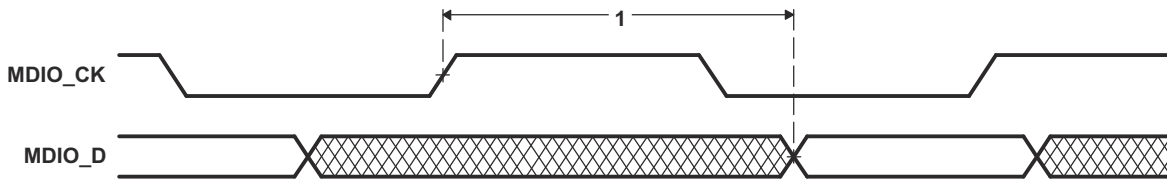

图 7-41. MII Serial Management Timing - MDIO as Output
7.11.6.4.3 Switching Characteristics Over Recommended Operating Conditions (Unless Otherwise Noted) for MDIO as Output (see 图 7-41)